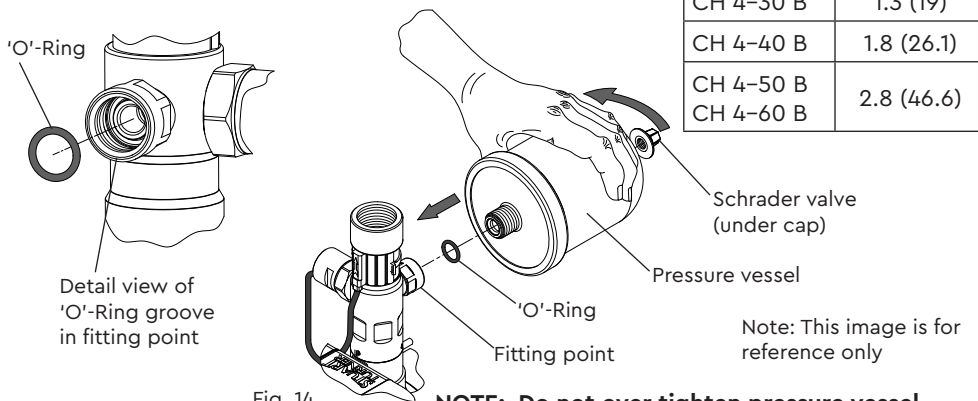

Fig. 14
- e) Check air charge at Schrader valve (Fig. 14) using a tyre pressure gauge.
- f) Replenish air charge if required by injecting air into the vessel via the Schrader valve using a car or bicycle pump (Fig. 14).